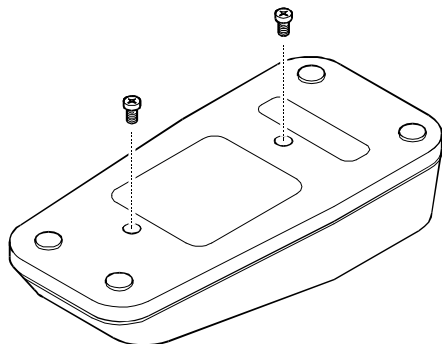

Figure 11: Case screw removal
1. (Figure 11) Place the Dual Charger upside-down on a flat work surface. Remove the two case screws.